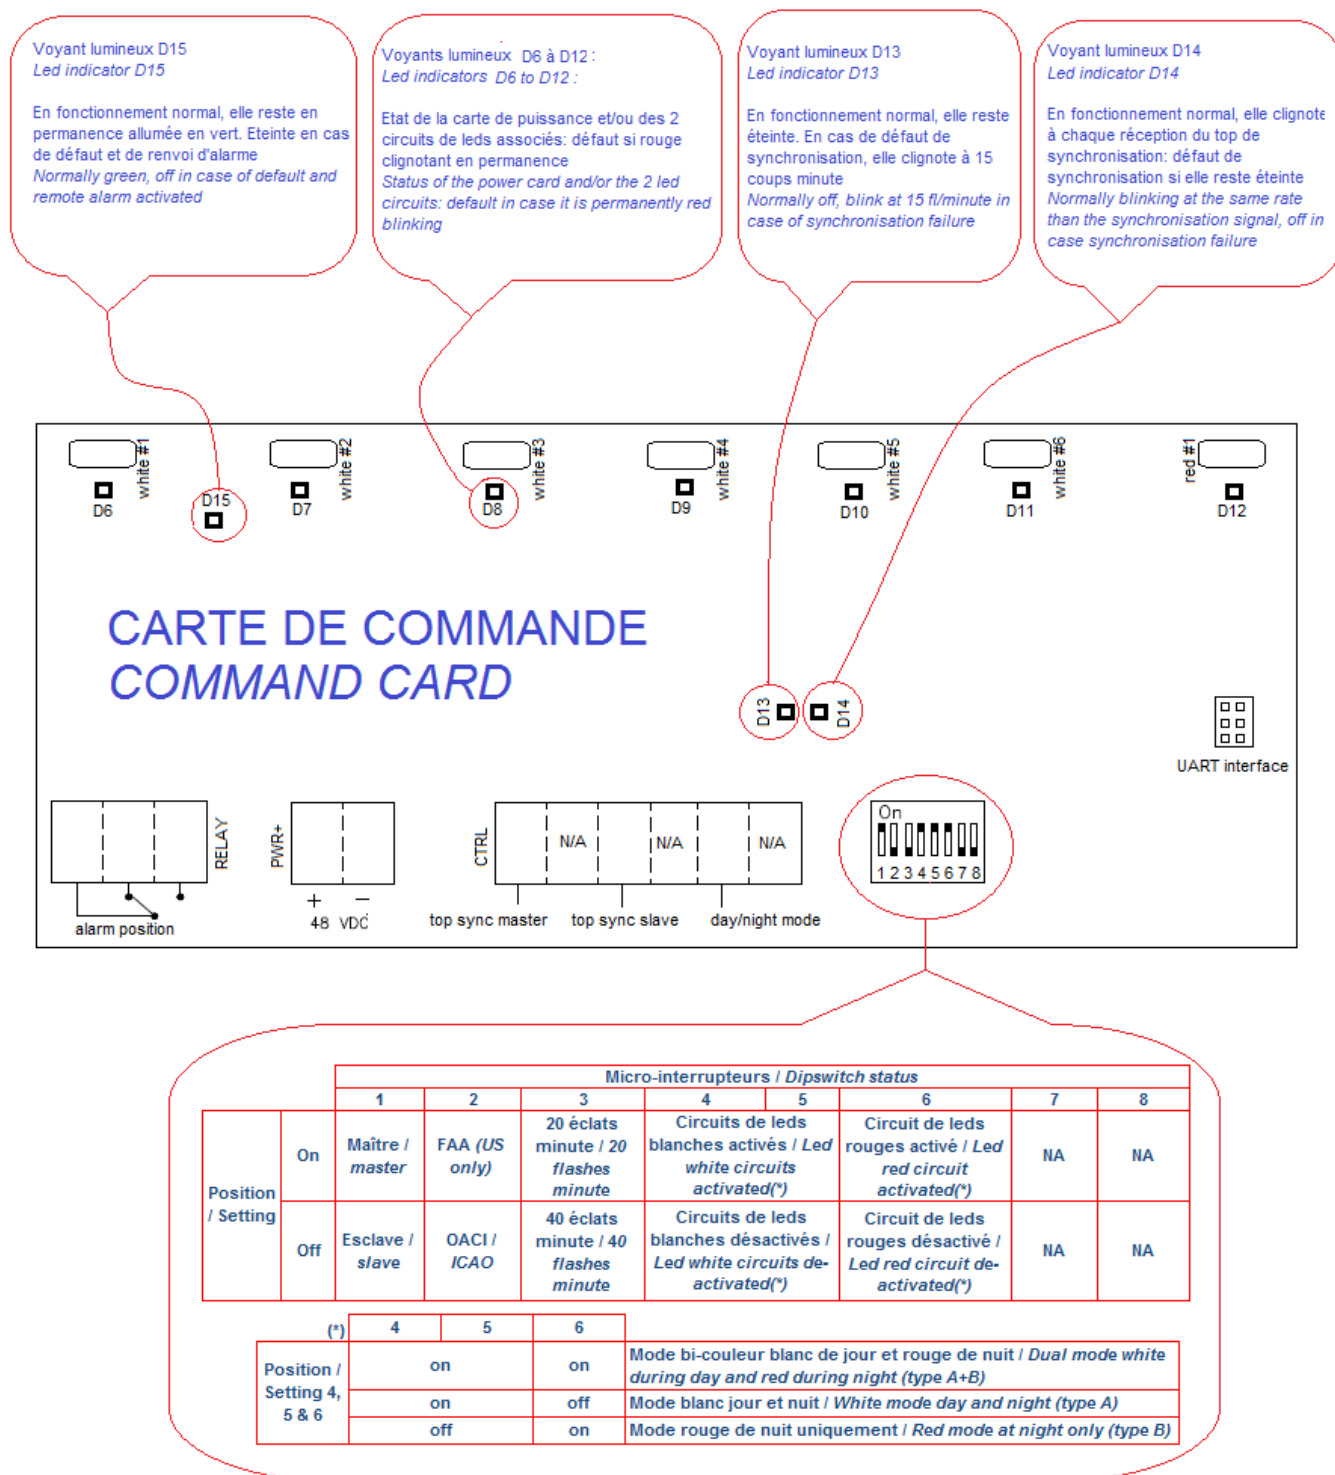

Figure 2-3. COMMAND CARD
- On the command card: 12 luminous indicators see figure 2-3